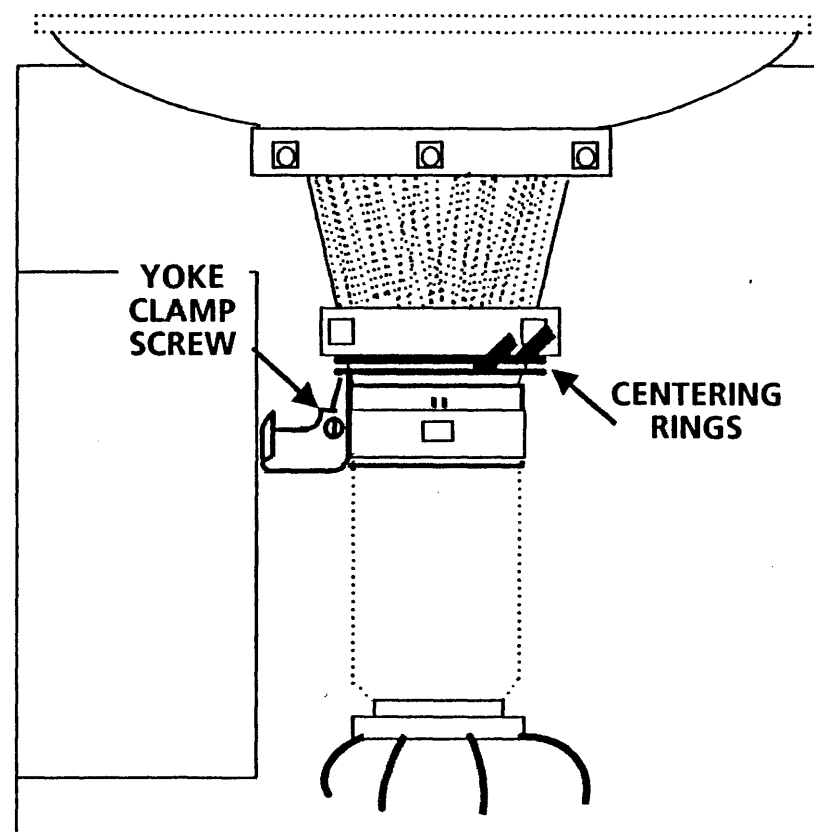

Figure 4-20 15" Display Yoke and Centering Rings
- g. Center the raster within the marks by adjusting the centering rings on the back of the yoke. (Figure 4-20) If the specifications in Step e cannot be met, you will have to tilt the raster. Proceed to Step 10.
- a. Loosen the yoke clamp screw one-quarter turn. (Figure 4-20)